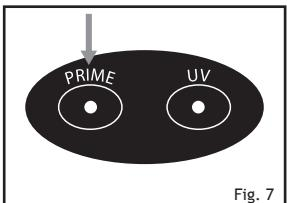

Fig. 7
20. Press the “prime” button on the top of the filter head to start the filter. The priming pump will run for approximately 40 seconds. During this time, water should begin to flow through the filter and you will see water flow from the outlet. If the filter is not fully primed when the priming pump switches off it can be run for another 40 seconds by pressing the “prime” button again. Fig. 7
21. To switch the UV lamp on, press the button marked “UV” next to the priming button. Fig 7.